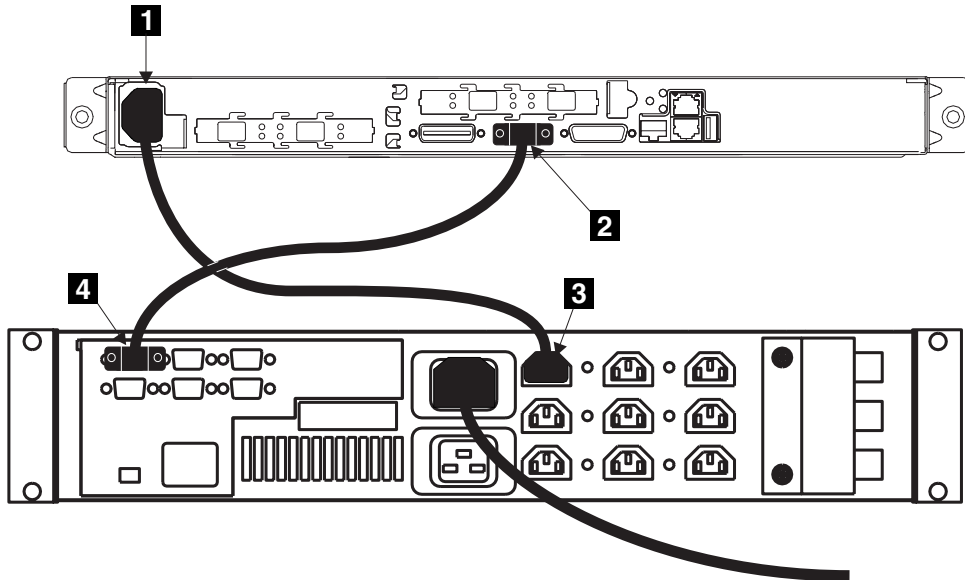

Figure 120. Connecting the SAN Volume Controller 2145-4F2 power cable to the 2145 uninterruptible power supply
1. At the back of the SAN Volume Controller 2145-4F2 node, as shown in Figure 120 on page 136, plug a power cable into the power connector **1**.